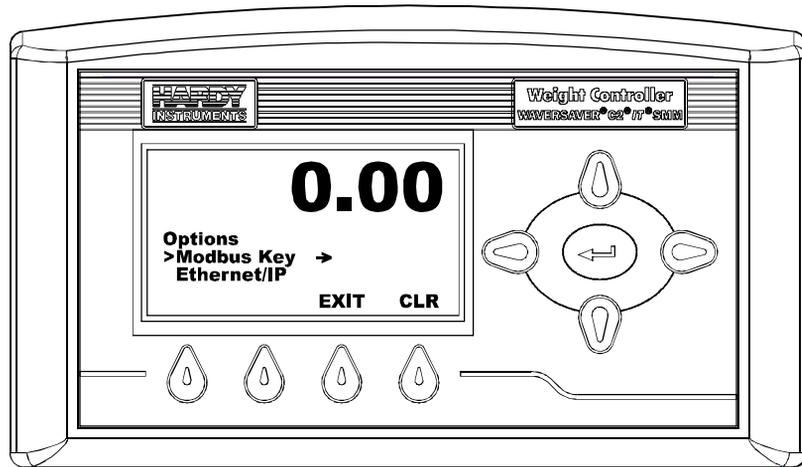

FIG. 135 RATE OF CHANGE/SETTING TIME BASE
- Step 4. Press the Enter button. The Options Menu appears. (See Fig. 135)
(See Fig. 135)